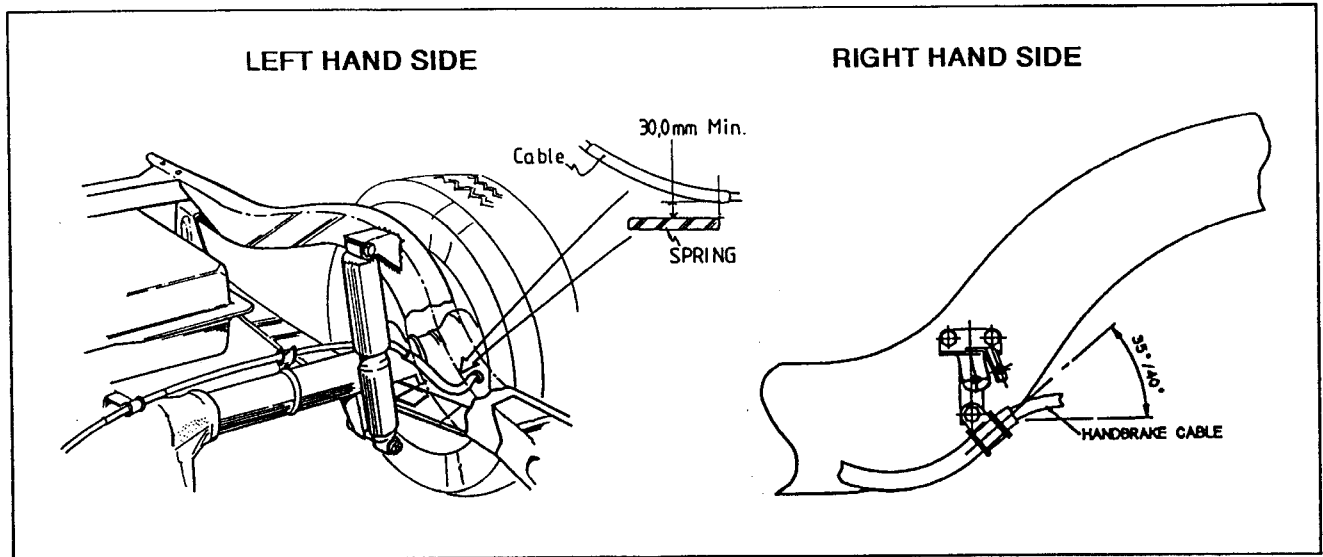

Fig. 10 Handbrake routing
7. Route the handbrake cable from its upper position on the handbrake abutment bracket, behind the left hand rear damper through to the left hand rear brake backplate as shown in Fig. 10. Secure the cable into position at the top location on the cable support bracket (on the chassis sidemember) and the two locations on the rear axle using the 'P' clips and hardware fitted previously. Torque the 'P' clip bolts to 10 - 14 Nm (7.5 - 9.5 lbf. ft.)
Route the handbrake cable to the right hand brake backplate, attaching it to the lower mounting bolt of the cable support bracket (on the chassis sidemember) as shown in Fig 10. Torque the bolt to 10 - 14 Nm. (7.5 - 9.5 lbf. ft.)